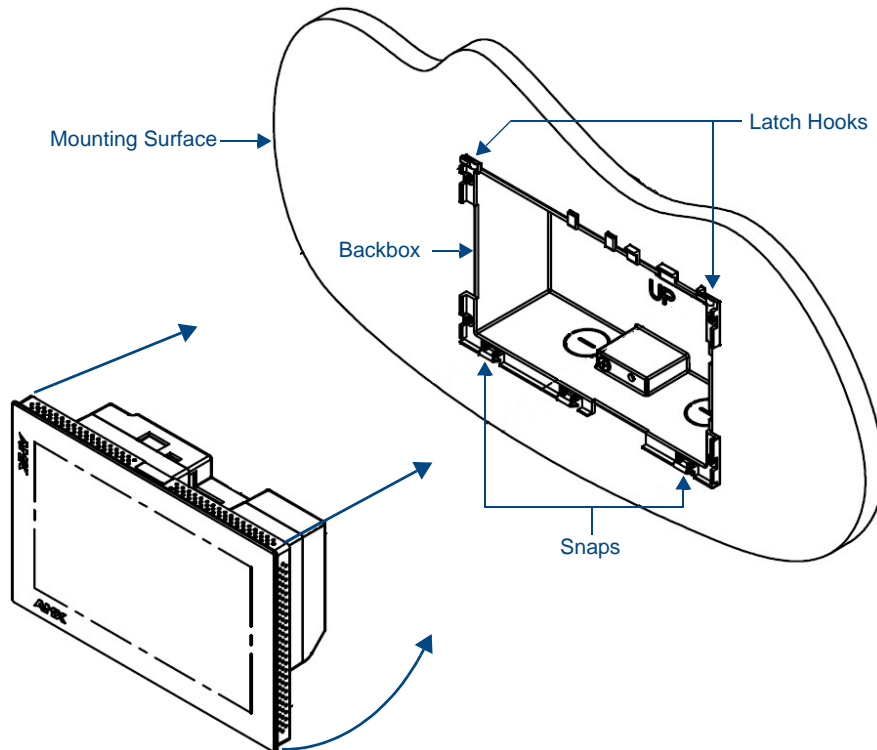

FIG. 46 Installing the MXD-1000 / MXD-700
9. Latch the panel onto the hooks on the Backbox. Push in on the bottom snaps (Landscape) or on the right (Portrait) gently but firmly until the snaps “click” to lock it down (FIG. 46)..